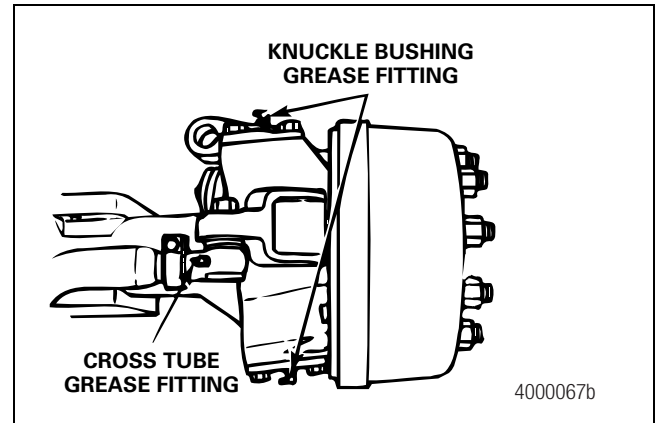

Figure 5.22
1. Check the cross tube for looseness of more than 0.060-inch (1.52 mm). Figure 5.22.